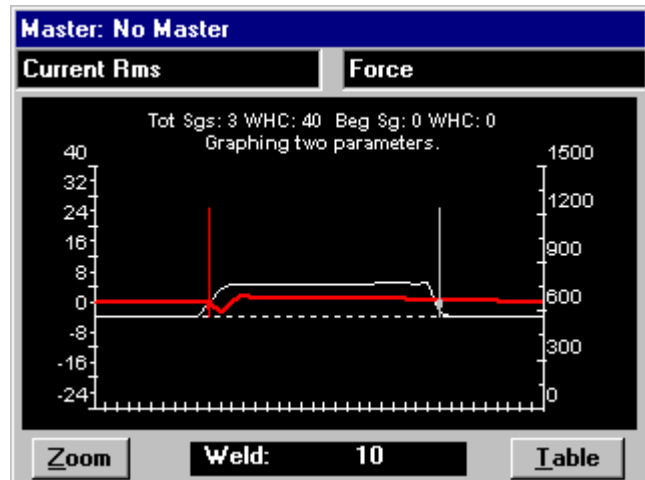

Figure 5-27 Halfcycle Summary (graph)
- Use the MENU key to go to the **Main Menu**. Select **Data**, then **Halfcycle Summary**. The screen should look similar to figure 5-27.